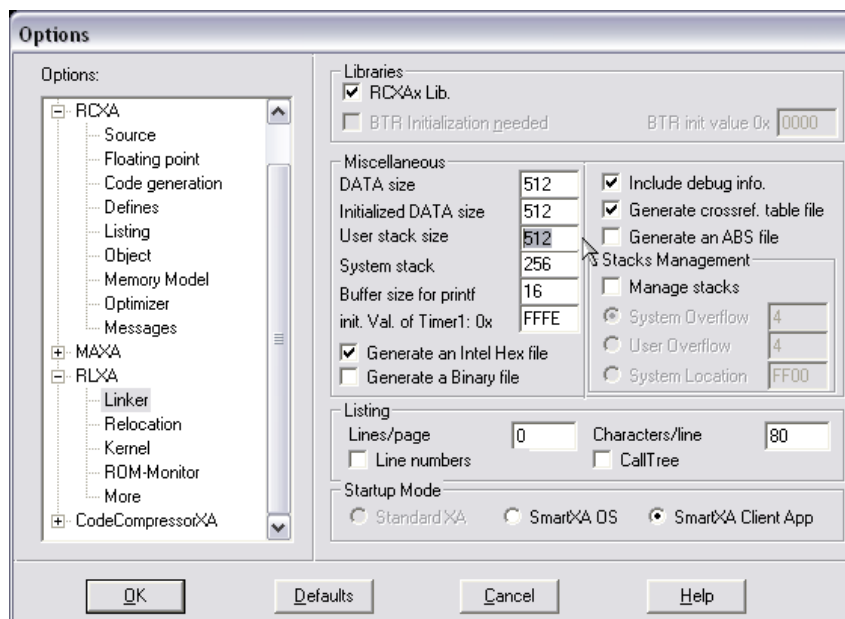

Figure 5-17 Linker Option Configuration
- d) Spread the RLXA tree and configure Linker options. Select the “Linker” node, choose “SmartXA Client APP” from the “Startup Mode” field, and set “User stack size” as desired size. It is recommended to set it to 512 bytes¹² as shown in Figure 5-17. However, if VM and multi-XA programs need to share the memory, then set “Intialized DATA size” as 0.